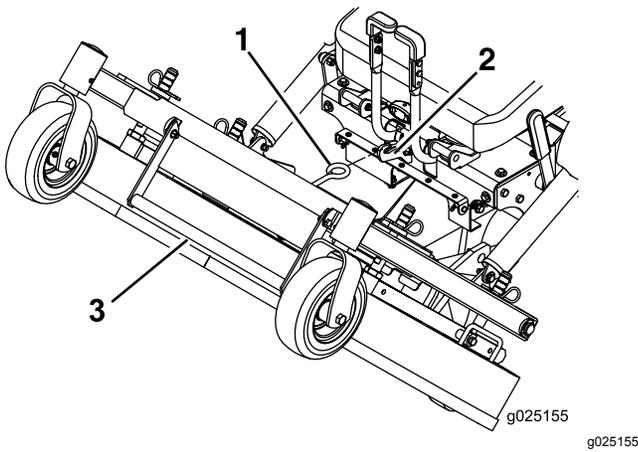

Figure 12
6. Using deck-lift handle, lift deck up and latch in up position (latch is located at front center of seat) as shown in Figure 12.
1. While firmly holding onto deck-lift handle, unhook mower deck latch from the machine and slowly lower mower deck to the ground (Figure 12).